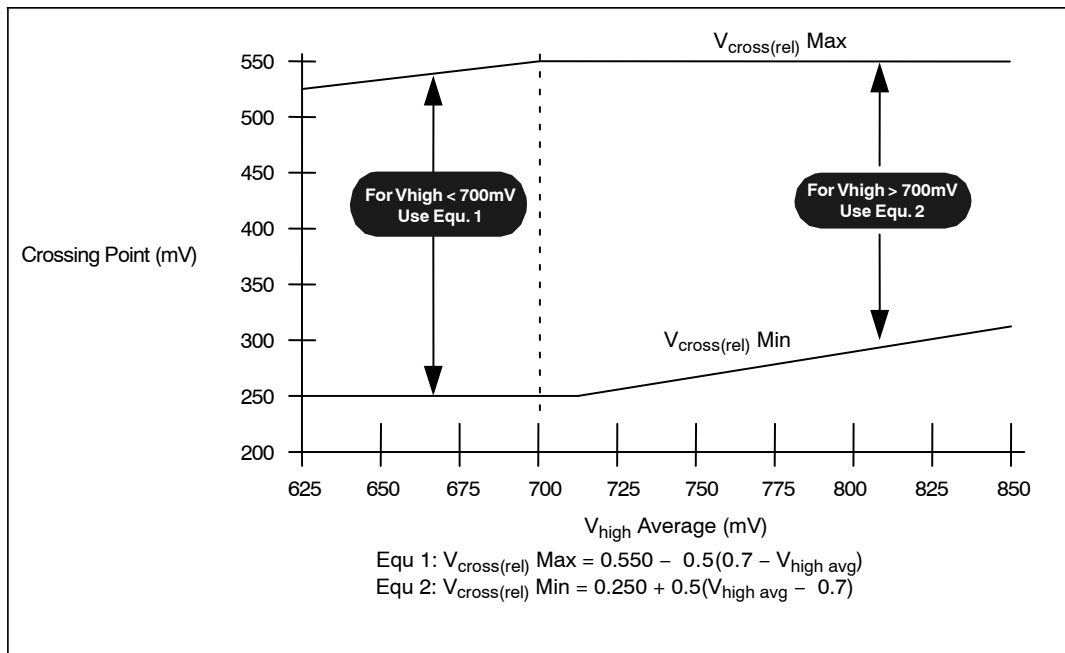

Figure 16.  $V_{\text{cross}}$  Range Clarification (Note 40)
| $V_{cross}$ absolute              | Absolute Crossing Point Voltages (Notes 12, 17 and 24)Relative Crossing Point Voltages can be calculated (Notes 16, 17 and 24) (Figure 16) | 250  |     | 550              | mV     |
16. Vcross(rel) Min and Max are derived using the following, Vcross(rel) Min =  $0.250 + 0.5 (V_{high\ avg} - 0.700)$ . Vcross(rel) Max =  $0.550 - 0.5 (0.700 - V_{high\ avg})$ . (see Figure 16 for further clarification).